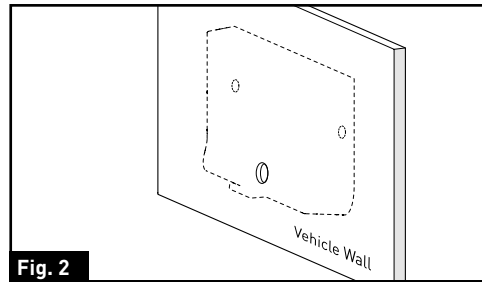

Fig. 2
3. Drill a $\frac{5}{8}$ " hole on the vehicle wall where the mounting bracket wire feeds in using a $\frac{5}{8}$ " hole saw. (Fig. 2)